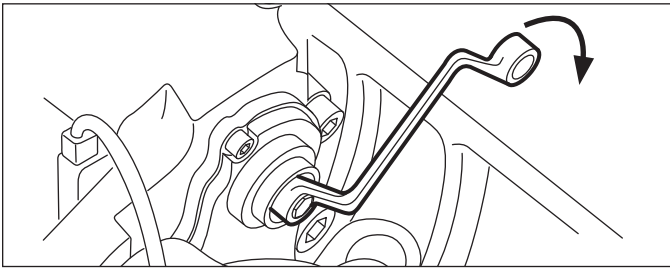

FIGURE 40 - RUNNING CLEARANCE ADJUSTMENT
- 5.2.18 Using a 10mm., six-point box wrench, turn the Shear Adapter (61) **clockwise** until the pads contact the rotor. Note: Do not use an open-ended wrench as this may damage the adapter. (See Figure 40).